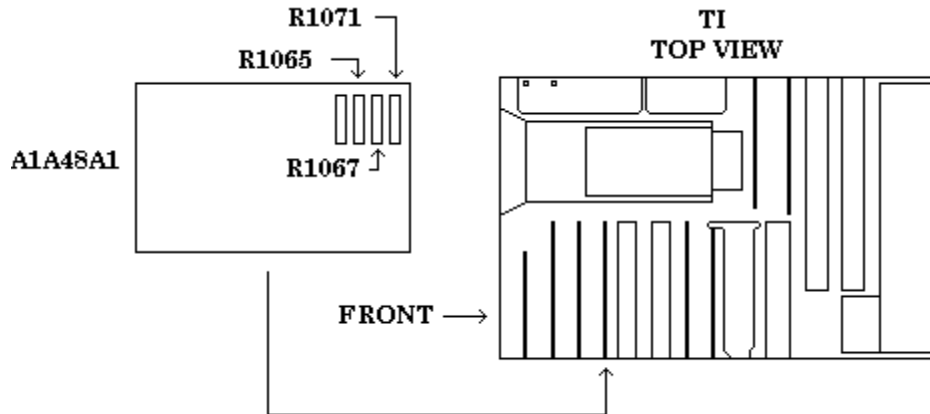
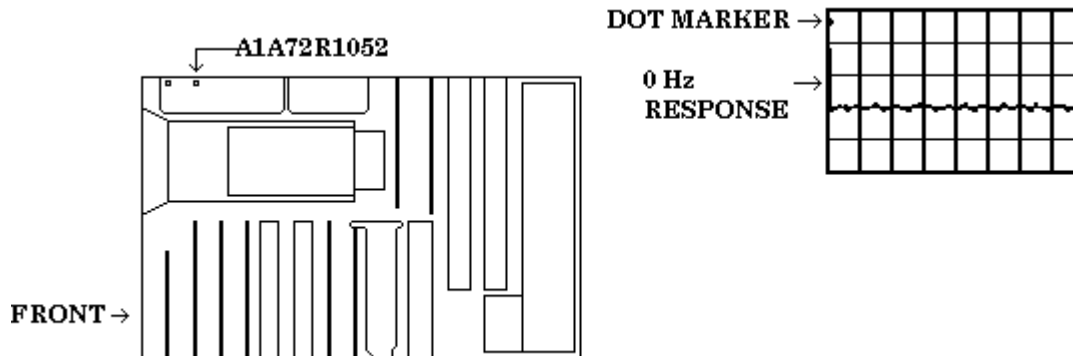

Figure 3. Span/div adjustment.
Figure 4. 0 Hz adjustment.
- (10) Set pulse generator for a 10 ns output at an amplitude of 2.00 V.
- (11) Use TI **CENTER/MARKER FREQUENCY** knob to align 2nd marker from left to TI second vertical graticule line.
- (12) Adjust A1A48A1R1065 (fig. 3) for one marker per division over center eight divisions of CRT (R).
- (13) Reduce pulse generator output to minimum and disconnect from TI **RF INPUT 50Ω**.
(14) Connect oscilloscope calibrator **SOURCE/MEASURE CHAN 1** to **TI RF INPUT 50Ω**.
(15) Press TI keys as listed in (a) through (d) below:
(16) Set oscilloscope calibrator for a 200 ns **MARKER** output.
(17) Use TI **CENTER/MARKER FREQUENCY** knob to align 2nd marker from left to TI second vertical graticule line.
(18) Adjust A1A48A1R1071 (fig. 3) for one marker per division over center eight divisions of CRT (R).
(19) Press TI keys as listed in (a) through (d) below:
(20) Use TI **CENTER/MARKER FREQUENCY** knob to align 2nd marker from left to TI second vertical graticule line.
(21) Adjust A1A48A1R1067 (fig. 3) for one marker per division over center eight divisions of CRT (R).
(22) Set oscilloscope calibrator to standby.
(23) Press TI **BLUE SHIFT** then **RESET** keys.
(24) Disconnect oscilloscope calibrator **SOURCE/MEASURE CHAN 1** from **TI RF INPUT 50Ω**.
(25) Adjust A1A72R1052 (fig. 4) dot marker over 0 Hz response as shown in example waveform in fig 4 (R).